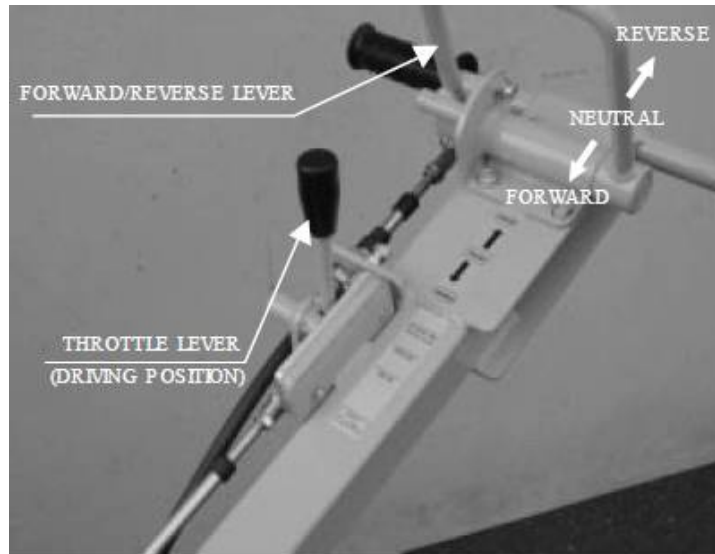

Figure 5-6
4. Move the Propulsion Control (Forward/Reverse Lever) to achieve the desired direction and safe speed of travel as determined by conditions. The further the control is moved from the Neutral (N) position, in either direction, the greater the travel speed in that direction. Return the control to the neutral position for normal braking. Refer to Figure 5-6.